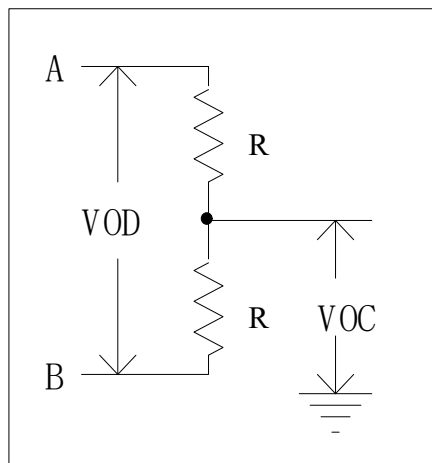

Figure 1 Driver DC Test Circuit
- (1) Test circuit is shown in Figure 1